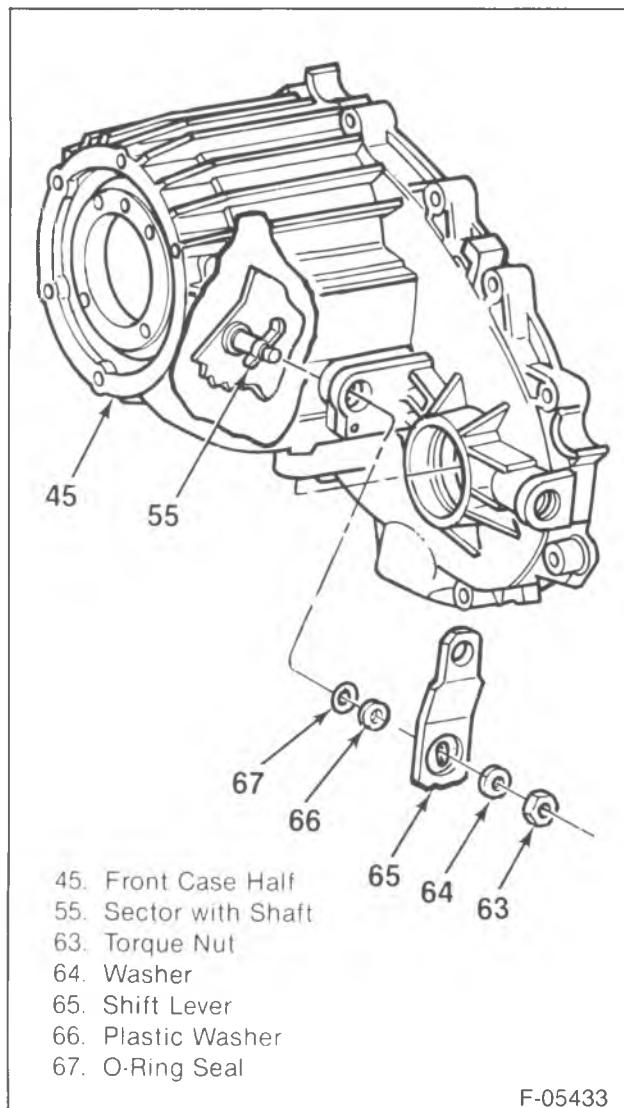

Figure 13—Sector with Shaft
Assemble (Figures 13, 14, and 15)
- Bolts (43) to 19 N·m (14 ft. lbs.).
- 6. Sector with shaft (55) into the front case half (45).
- 7. Shift lever O-ring (67), plastic washer (66), shift lever (65), washer (64), and nut (63) to the front case half (45) (figure 13).